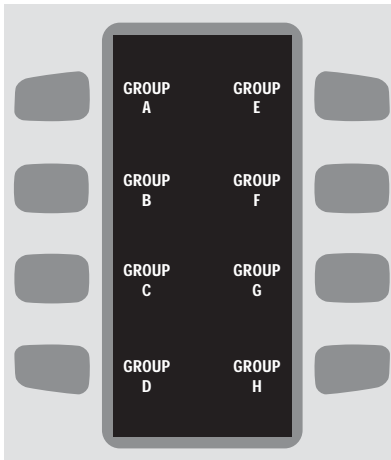

FIGURE 15: Idle Screen (Select Menu Group)
2. From the IDLE screen, select the food group that contains the item you wish to cook by pressing the adjacent soft key (Figure 15).